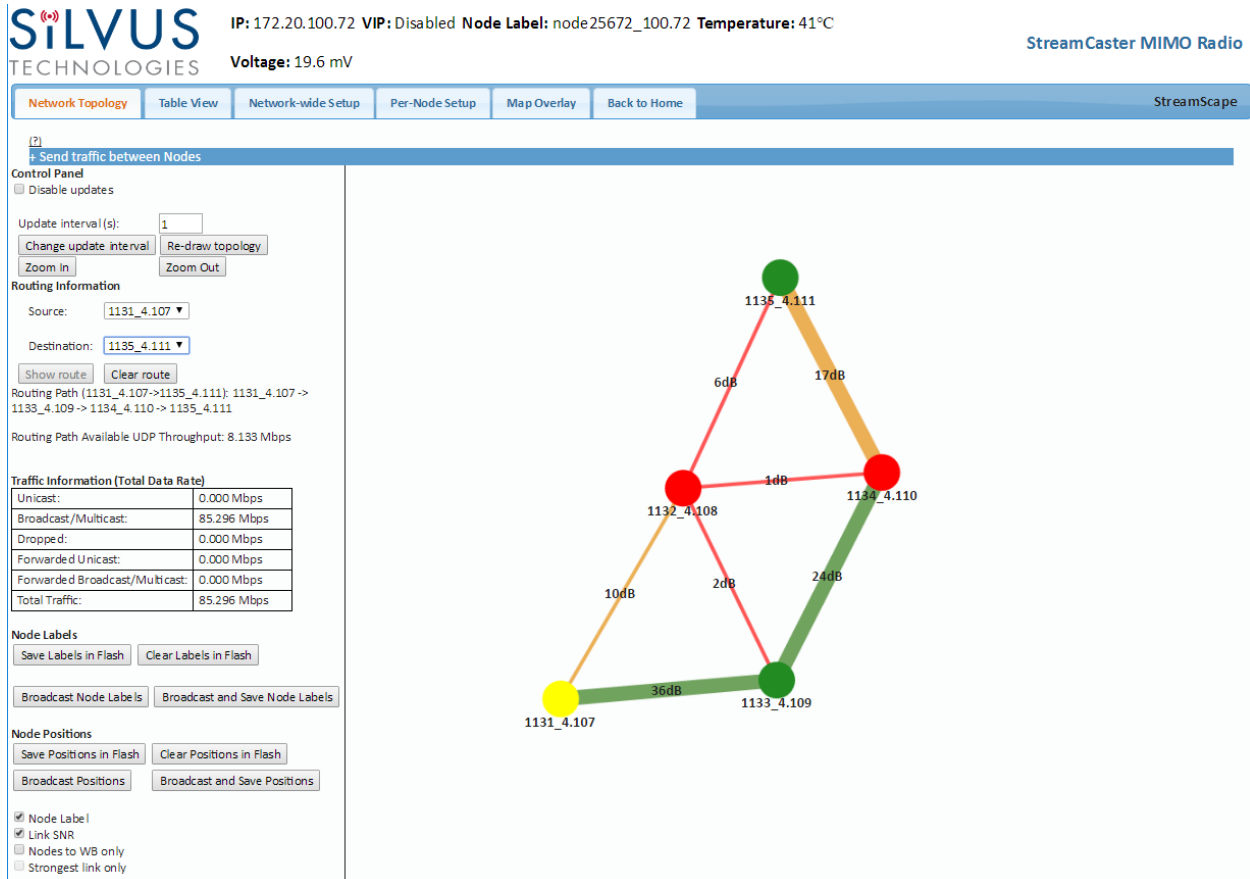

Figure 56 Routing Path
- **Routing Information** – The user can view the routing path between any 2 nodes within a network by simply specifying the source and destination node in the Control Panel on the left hand side. The path will turn bold as shown in **Figure 56** for the path from 'node4411' to 'node4569'.